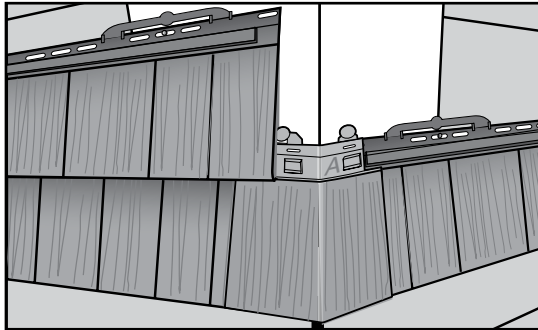

Figure 7
2. Once the panel has been fastened, hook the corner "A" over the siding, making sure the corner piece is locked into the starter strip (*Figure 7*).